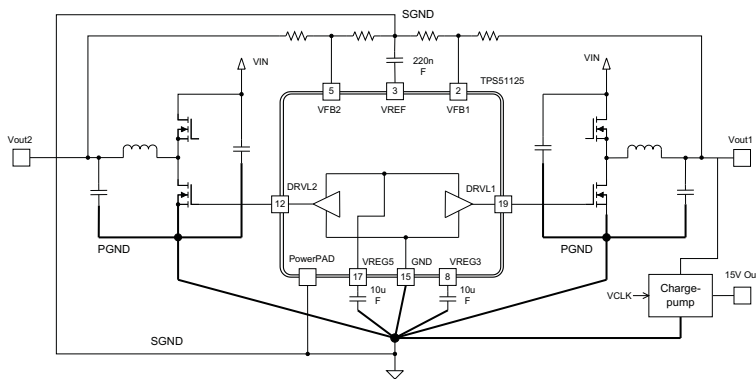

Figure 40. GND system of DC/DC converter using the TPS51125
- TPS51125 has only one GND pin and special care of GND trace design makes operation stable, especially when both channels operate. Group GND terminals of output voltage divider of both channels and the VREF capacitor as close as possible, connect them to an inner GND plane with PowerPad, overcurrent setting resistor, EN0 pull-down resistor and EN0 bypass capacitor as shown in the thin GND line of Figure 40. This trace is named Signal Ground (SGND). Group ground terminals of VIN capacitor(s), VOUT capacitor(s) and source of low-side MOSFETs as close as possible, and connect them to another inner GND plane with GND pin of the device, GND terminal of VREG3 and VREG5 capacitors and 15-V charge-pump circuit as shown in the bold GND line of Figure 40. This trace is named Power Ground (PGND). SGND should be connected to PGND at the middle point between ground terminal of VOUT capacitors.